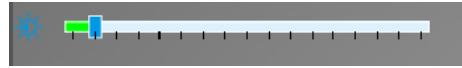
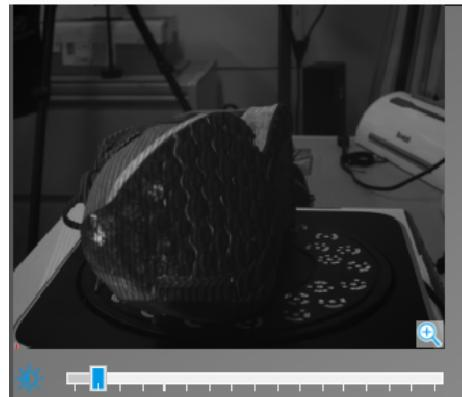

Figure 14: Brightness Level 2
Figure 15: The live screen will display the shoe as the scanner can see it.
10. Locate the brightness setting and select level 2 (Figure 14). This will allow the scanner to pick up on the finer details of the shoe. On this level there will be relatively little red on the live screen (Figure 15)